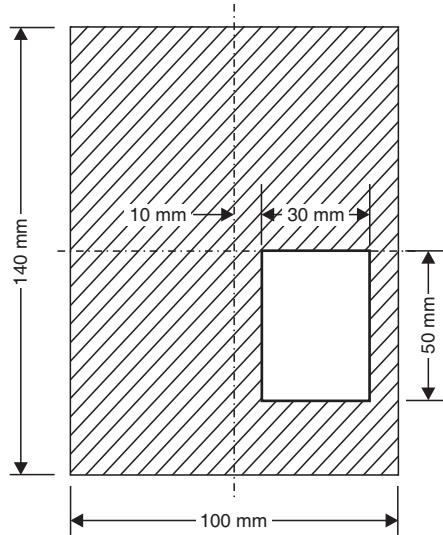

Fig. 7.51
14. Find the centroid of the shaded area shown in Fig. 7.51.